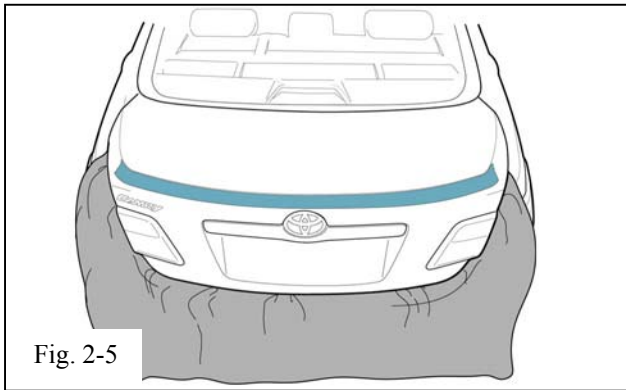

Fig. 2-5
- (j) Apply masking tape to the trunk lid surface in the areas where the six (6) mounting holes will be drilled (Fig. 2-5). Two inch wide blue painters masking tape is recommended.